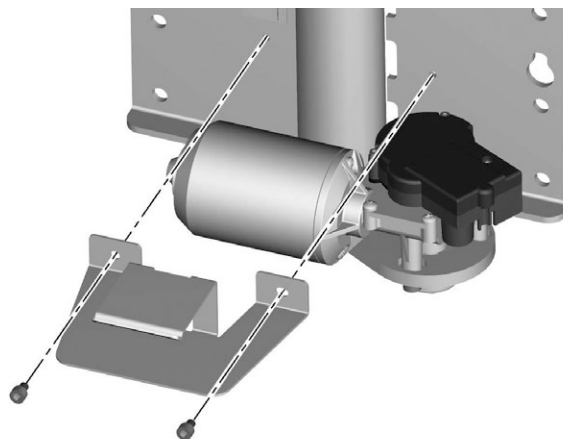

Figure 112. ICS Master Module bracket.
7. Remove the ICS Master Module bracket. It is attached with two screws. See fig. 112.